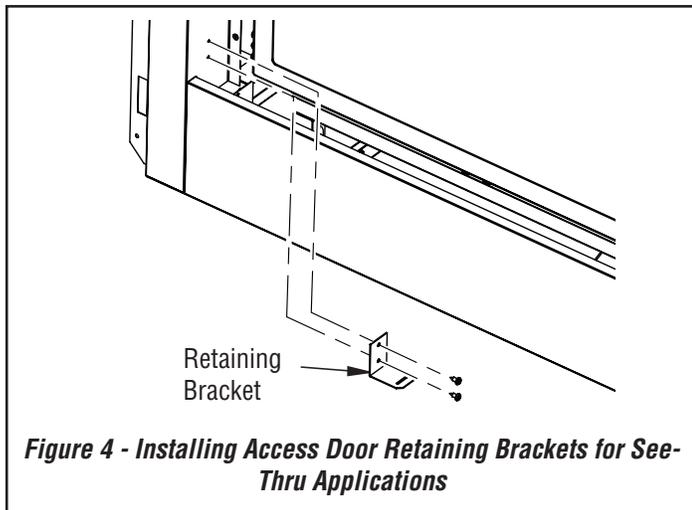

Figure 4 - Installing Access Door Retaining Brackets for See-Thru Applications
6. Install access door retaining brackets into the face side using two screws ea. (supplied) on both the left and right side as shown in **Figure 4**, page 3.